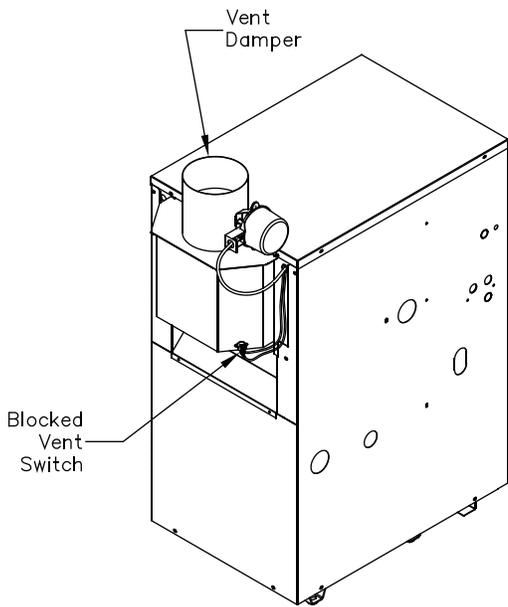

Figure 1: Boilers with Rear Relief Opening
2. All boilers are equipped with a means of preventing the boiler from firing if there is an excessive blockage in the vent system. Boilers designed for chimney venting are equipped with a blocked vent switch located as shown in Figure 1 or 2, depending on the specific boiler design. If this switch opens, the boiler will not fire. Call a qualified installer, service agency or gas supplier to diagnose and the problem and reset this switch if necessary.
- (Chimney vent boilers only) Blocked vent switch not surely attached as shown in Figure 1 or 2, as applicable